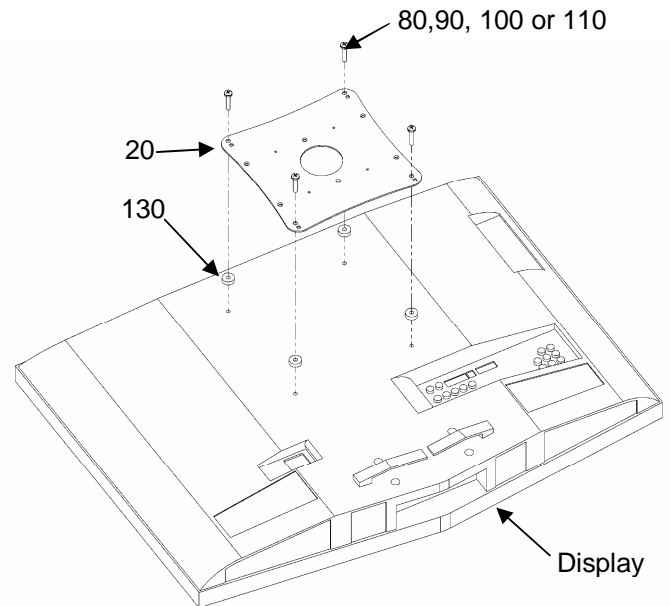

Figure 8. Attach Interface Bracket to Display
2. Place four spacers (130) over four mounting holes in display as shown in Figure 8.